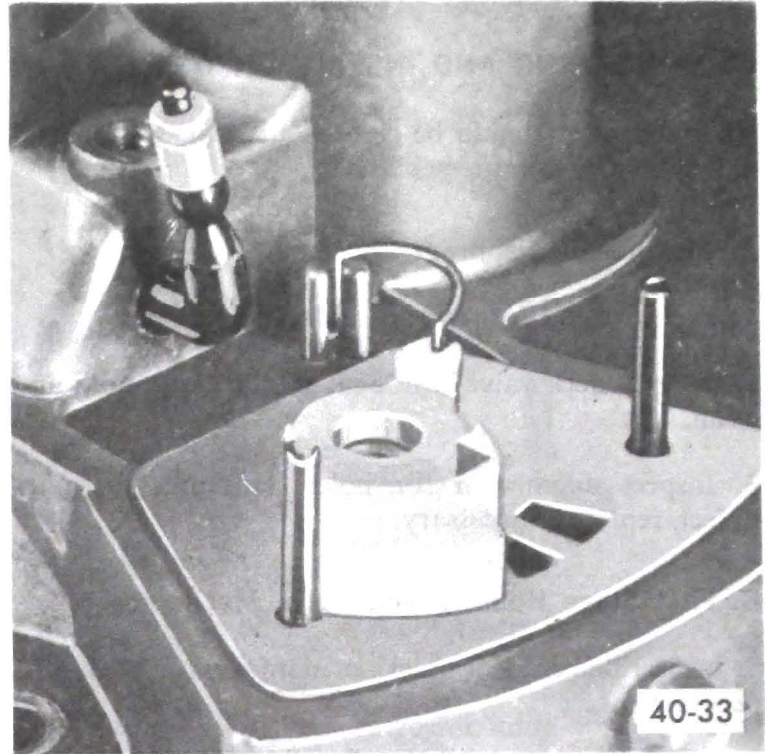

Figure 40-41 - Positioning Distributor Valve
4. Position distributor valve so that short foot of tension spring fits under valve and vertical leg is in slot. See Figure 40-41.